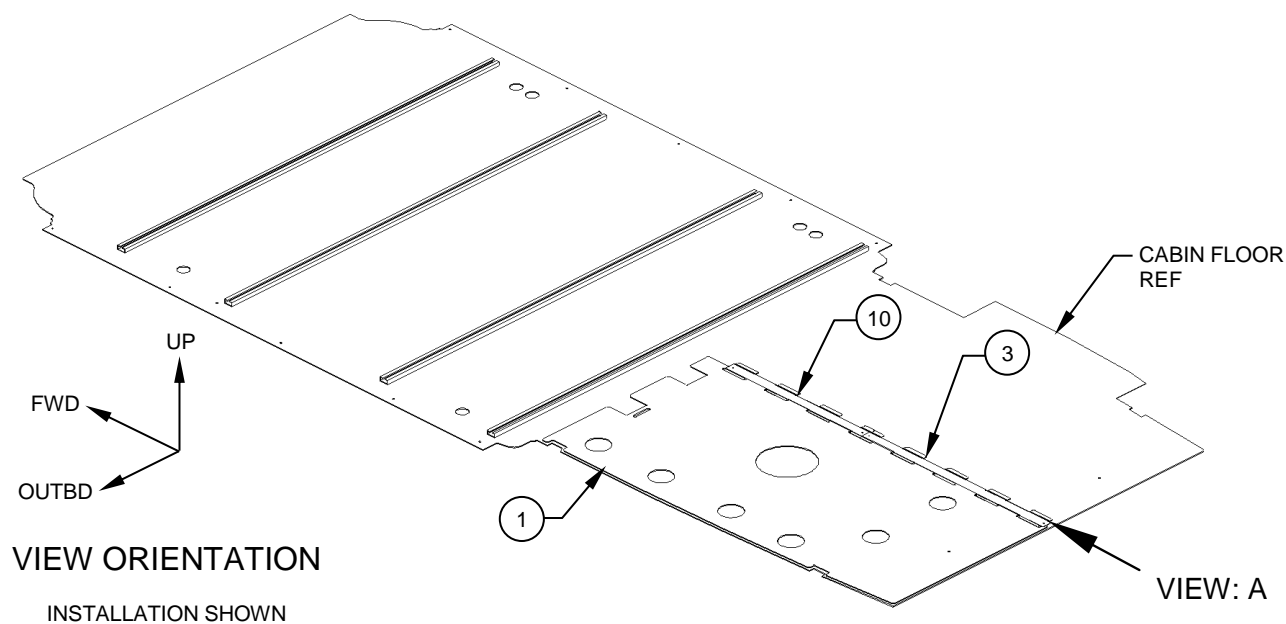

Figure 3
3. Position the LHS Panel Assy (Item 1) on the floor in its approximate position with the Velcro strips facing down as shown. Reference Figure 3.
4. Install the Retainer Strip, Assys (Item 3 and 10) by inserting the tabs into the provided slots in the panel as shown. Reference Figures 3 & 4.
5. Install the RHS Panel, Assy (Item 2) by tipping the panel on an angle and inserting the Retainer Strip, Assy (Item 3 and 10) tabs into the provided slots in the panel as shown. Install cargo door sill (Item 4) using OEM hardware. Reference Figures 3, 4 & 5.